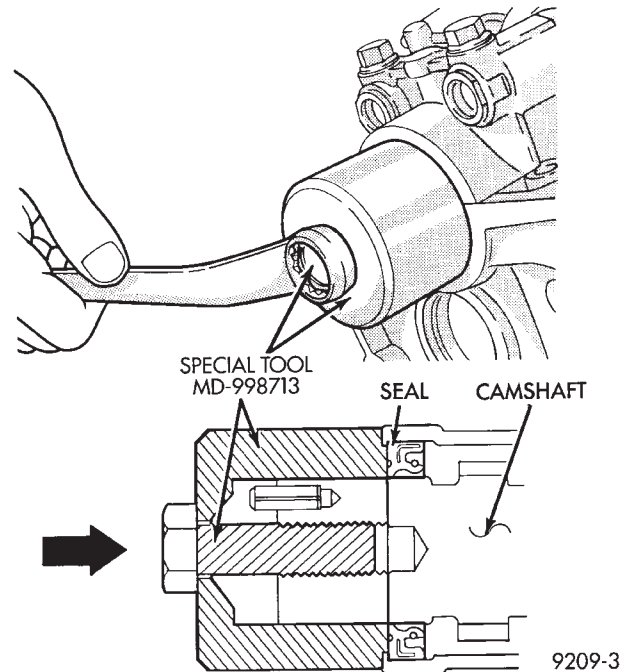

Fig. 60 Right Cylinder Head—Installing Camshaft Oil Seal
- (1) Apply light coat of engine oil to the camshaft oil seal lip.
- (2) Install the oil seal using Special Tool MD998713 or 6863 camshaft oil seal installers (Fig. 60) and (Fig. 61).